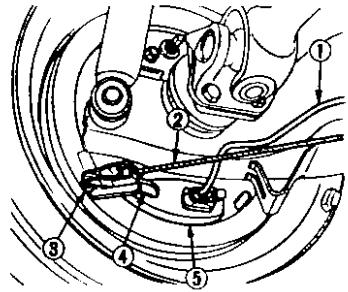

Fig. L.9 Removing the rear wheel cylinder.
2. Release the handbrake, remove the clevis pin (3) from the rear wheel cylinder lever (4), see Fig.L.9. Disconnect the handbrake cable (2) and remove the return spring (1).